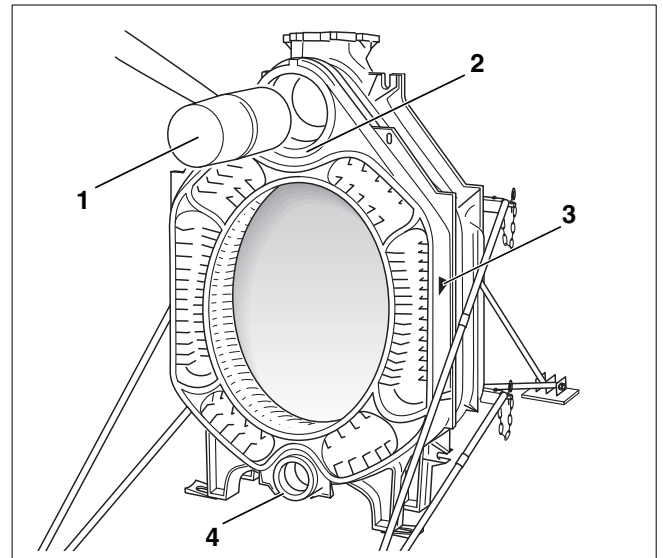

Fig. 15 Hammering on middle section
- Insert the top and bottom nipple ports of the middle section (Fig. 15, **ref. 2 and 4**) onto the nipples on the rear section, making sure that the arrow indicating direction of insertion (Fig. 15, **ref. 3**) is pointing backwards.
- Hammer the middle section onto the rear section with a mallet or rubber hammer (Fig. 15, **ref. 1**).